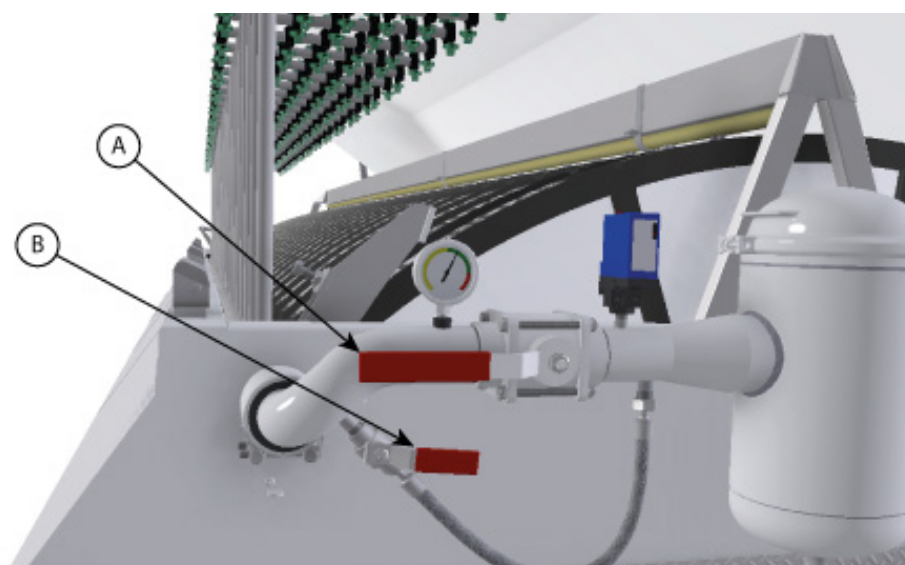

Figure 7.9 Main valve A and bypass valve B.
2. Open the bypass valve (B) See Figure 7.9.
7. Close the main valve (A), see Figure 7.9.